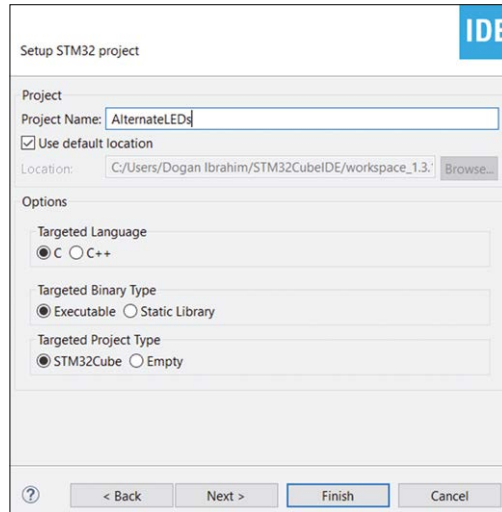

Figure 5.23: Assigning a name to the project.
- Click **Next** and Give a name to the project, e.g. **AlternateLEDs** (see Figure 5.23), and click **Finish**.